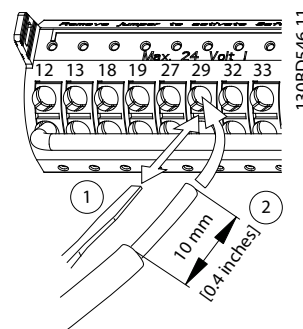

Figure 5.14 Connecting Flexible Control Wires
- For a flexible wire, open the contact by inserting a small screwdriver into the slot between the terminal holes and push the screwdriver inward. See *Figure 5.14*. Then, insert the stripped wire into the contact, and remove the screwdriver.